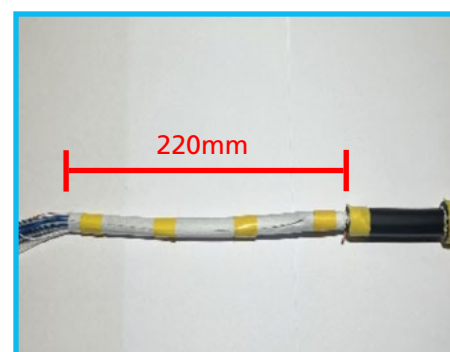

Figure 7
3. Remove the inner sheath to the mark. Cut back the water blocking tape, leaving 220mm from the ring cut. Loosely secure the water blocking tape over the fibres using electrical tape **[figure 7]**.